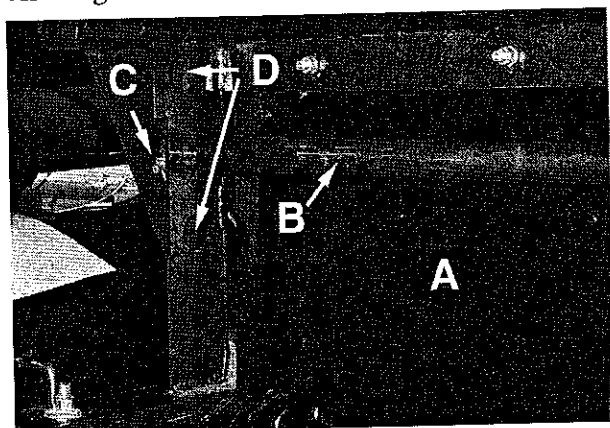

Figure 40. Tank Discharge Gate
An adjustable gate is provided in the tank discharge opening. Refer to Figure 40. The gate consists of a flexible curtain (A) that is held by an adjustable tube (B). The tube can be raised or lowered to change the rate of discharge to the wheel elevator. Adjust the gate to match various beet sizes, unloading speeds, and operating conditions. To change the discharge rate, remove the D-pins (C) that secure the tube in the available mounting holes (D), and install the tube in a different location. Raising the tube increases the discharge rate, and lowering it reduces the discharge rate.